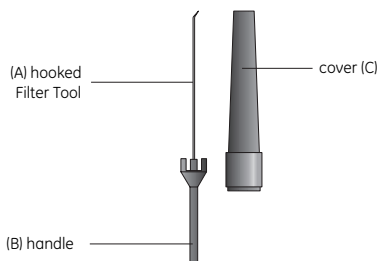

Fig 1. Filter Tool.
3. Using a hooked Filter Tool (Fig 1), carefully remove the filter from the surface of the resin bed.